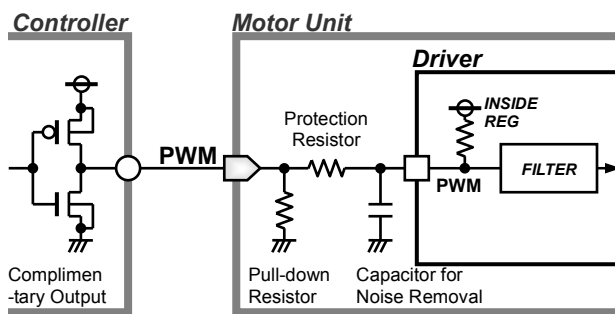
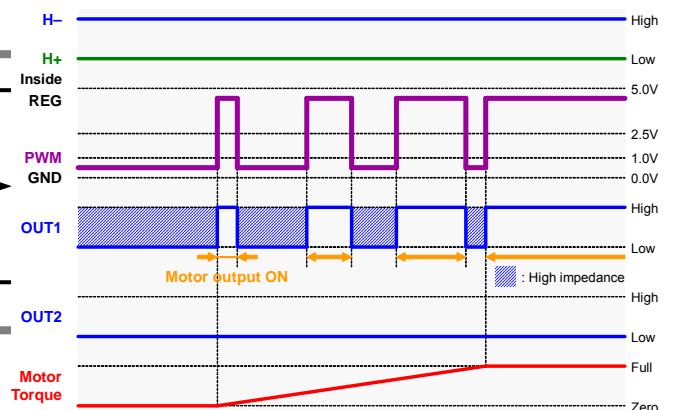

Figure 25. PWM Input Application
Figure 26. PWM Input Operation Timing Chart
- (1) PWM Operation by Pulse Input in PWM Terminal
- The PWM signal from the controller can be input directly to IC in Figure 25. The output duty is controlled by the input PWM duty (Figure 26). Refer to recommended operating conditions (P.3) and electrical characteristics (P.4) for the input condition. Internal power-supply voltage (INTERNAL REG; Typ 5.0V) is impressed when the PWM terminal is open, it becomes 100% input of the duty and equivalent, and a full torque is driven. There must be a pull-down resistance outside of IC to make it to torque 0 when the PWM terminal opens (However, only at the controller of the complimentary output type.). Insert the protective resistance and capacitor for noise removal if necessary.